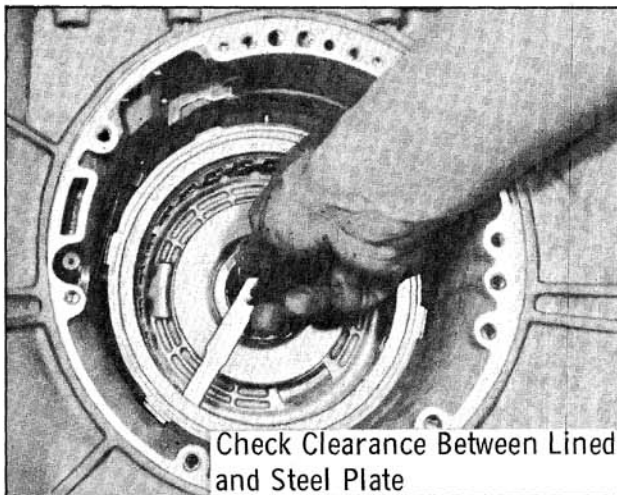

Fig. 6-495 Checking Clearance
9. Insert feeler gauge between any reaction plate and adjacent faced plate. (Fig. 6-495) Clearance for different reaction plates are shown as follows: